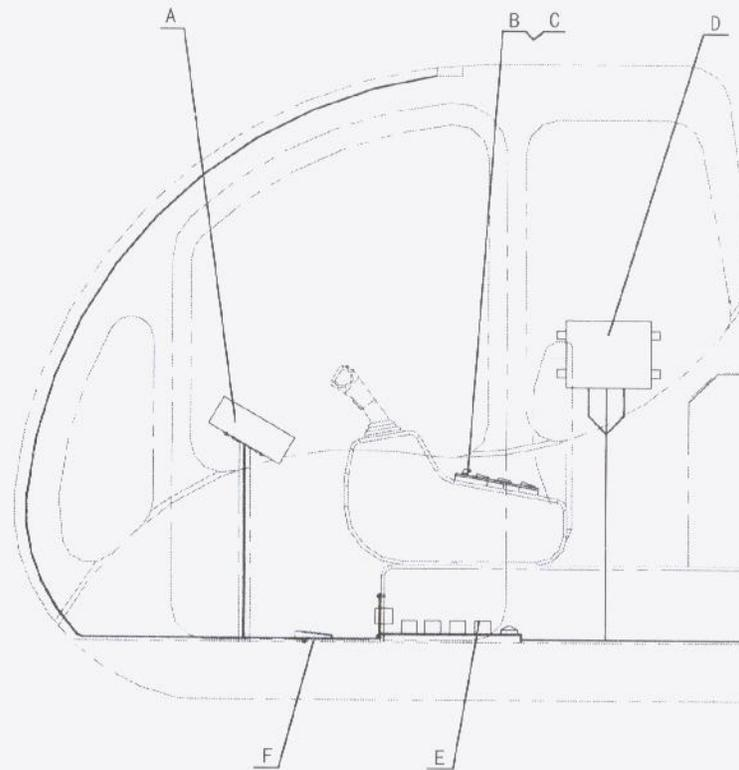

Fig. 4-1
① Low oil pressure warning lamp (H1)
② High water temperature warning lamp (H2)
a. Devices (Fig. 4-1)